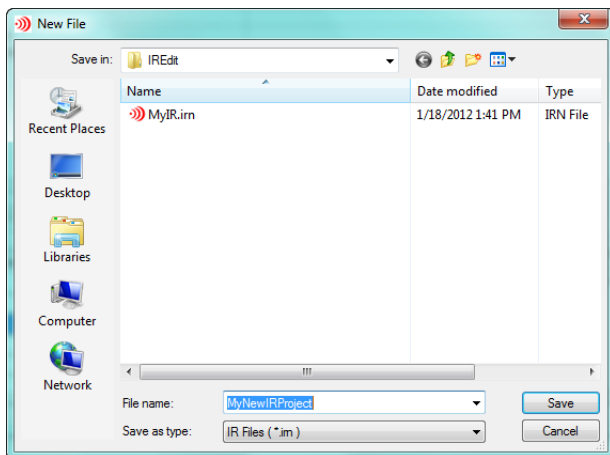

FIG. 11 New File Dialog
1. Select **File > New > New Database** to launch the *New File* dialog (FIG. 11).